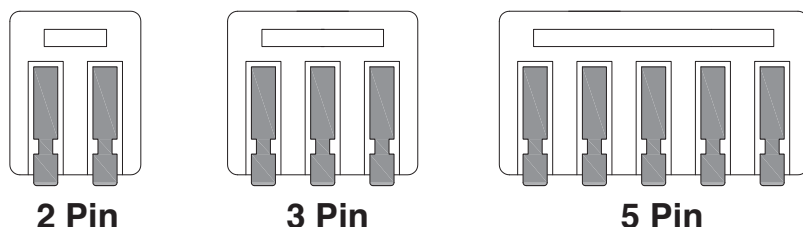

FIG. 22
2. All Wiring inside the fixture use WAGO connector of 5 PIN, 3 PIN and 2 PIN (See **FIG. 22**). If need to remove or replace any component in the driver compartment, please keep the WAGO connector for future use.